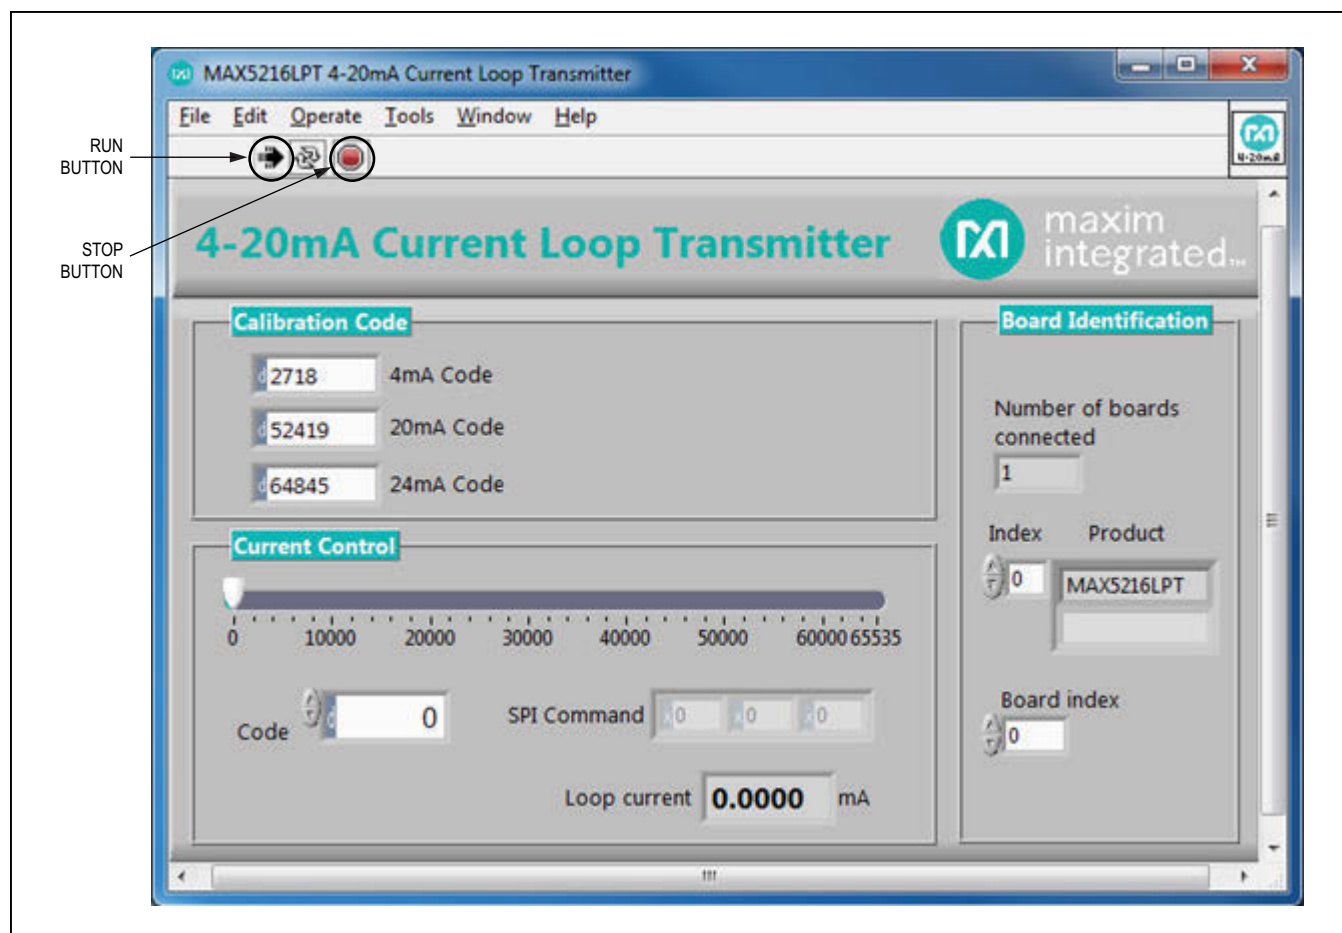
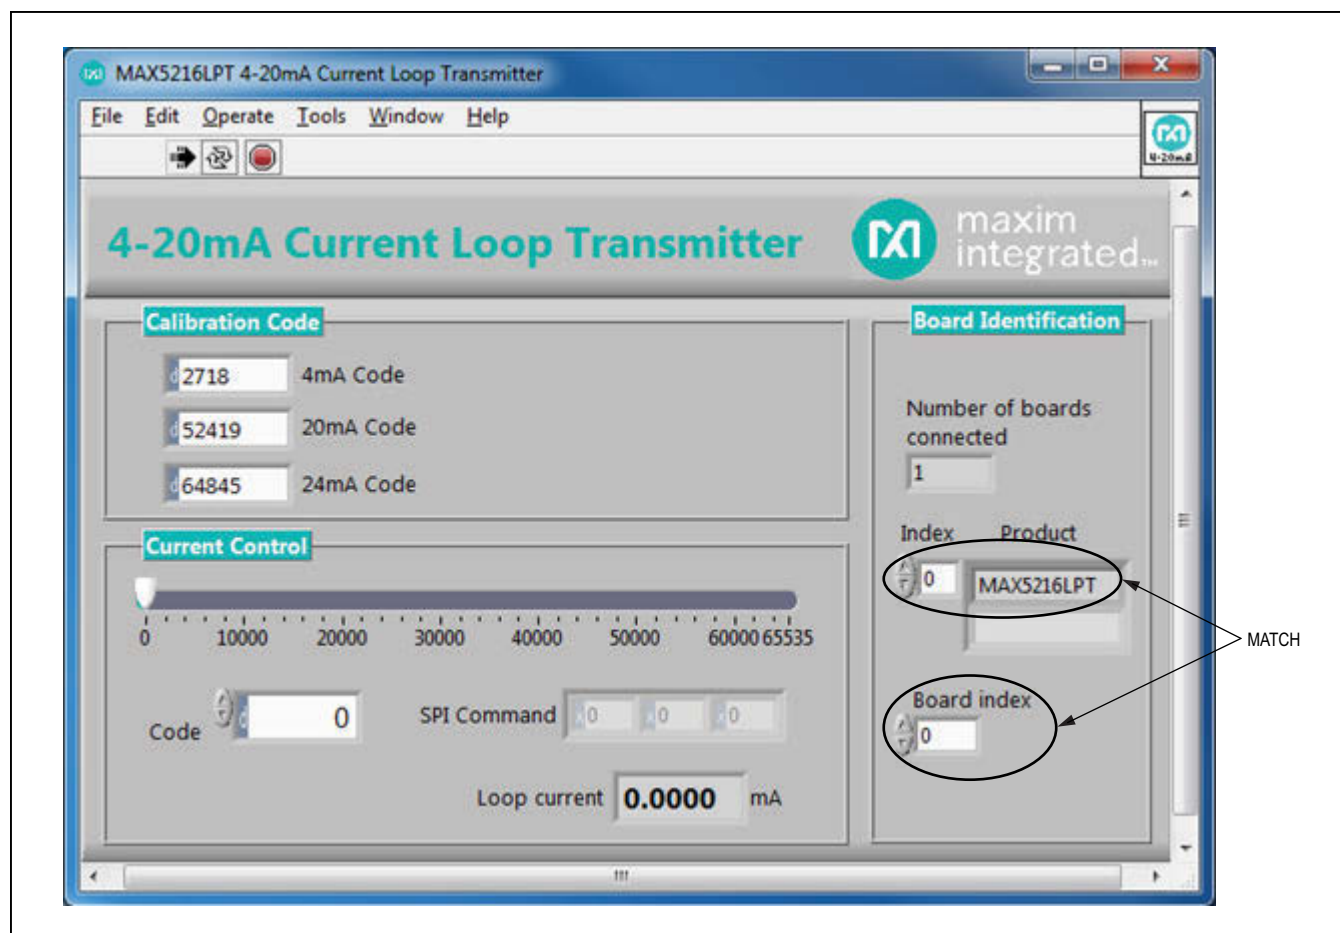

Figure 2. MAX5216LPT GUI
Figure 3. Select the Board Index in the System with the Multiple Boards
- 3) Run the MAX5216LPT.exe program. The application's GUI appears, as shown in Figure 2.
The MAX5216LPT EV kit GUI (Figure 2) is active by default. The application checks all the boards with the USB VID/PID 0x0B6A/0x1234 that connected to the PC and indicates them on the right side of the GUI. Up to 16 boards can be connected to the system. Each board has its own unique board index. Select the appropriate board index from the **Board index** spin box (Figure 3).